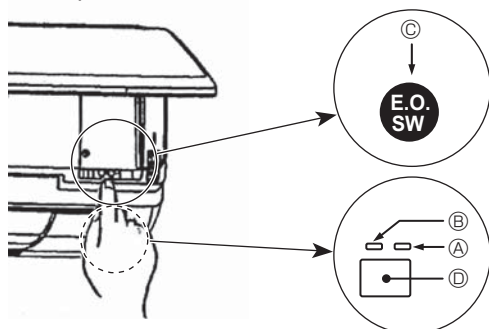

Fig. 5-2
- To stop operation, press the ⚙ button (D) or the ⚙ button (C) for more than 2 seconds.
[Fig. 5-2] (A) DEFROST/STAND BY lamp (Orange)
- (B) Operation lamp (Green)
- (C) Emergency operation switch (cooling/heating)
- (D) Receiver
- Check "COOL/HEAT" with the operation monitor display. (The orange lamp (A) follows this monitor display for 5 seconds after pressing the emergency operation switch.)